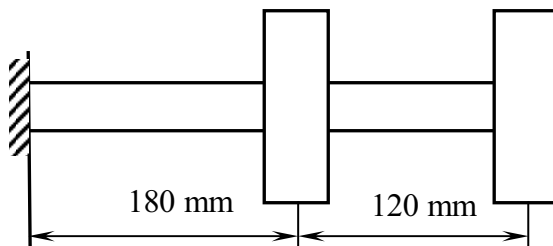

Fig. 4
- 18 Determine the fundamental natural frequency of transverse vibration of the system shown in Fig. 4 using Rayleigh's method and verify it using Dunkerley's method. Take $EI = 8 \times 10^4 \text{ Nm}^2$, $m_1 = 100 \text{ Kg}$, $m_2 = 50 \text{ Kg}$